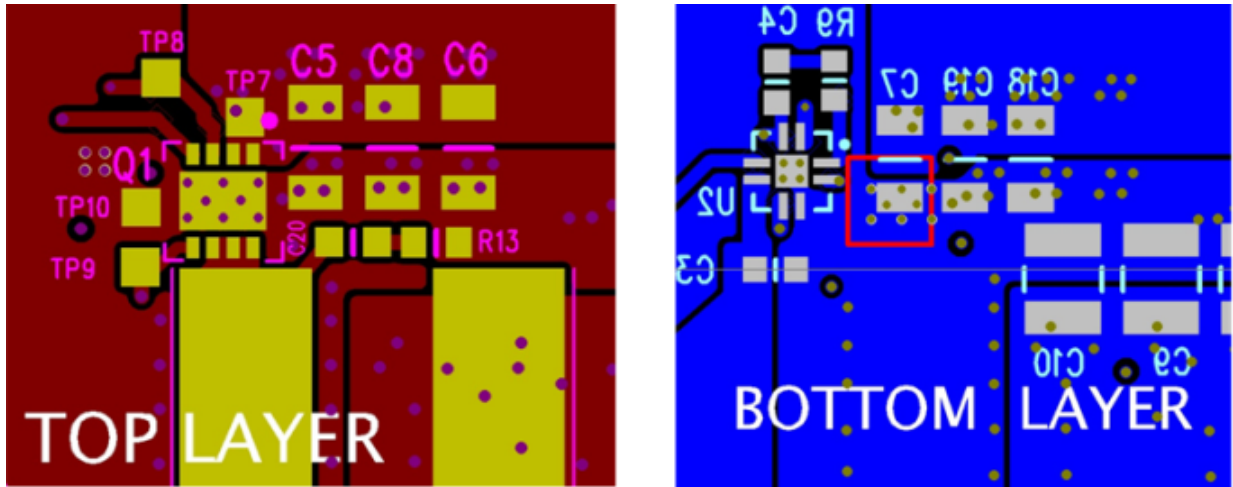

Figure 34. Recommended PCB Layout (Top Down View)
- The placement of the input capacitors relative to the power block's VIN and PGND pins should have the highest priority during the component placement routine. It is critical to minimize these node lengths. As such, ceramic input capacitors need to be placed as close as possible to the VIN and PGND pins (see Figure 34). The example in Figure 34 uses 6 \times 10- μ F ceramic capacitors (TDK part C3216X5R1C106KT or equivalent). Notice there are ceramic capacitors on both sides of the board with an appropriate amount of vias interconnecting both layers. In terms of priority of placement next to the power block, C5, C7, C19, and C8 should follow in order.
- The switching node of the output inductor should be placed relatively close to the power block VSW pins. Minimizing the node length between these two components will reduce the PCB conduction losses and actually reduce the switching noise level. In the event the switch node waveform exhibits ringing that reaches undesirable levels, the use of a boost resistor or RC snubber can be an effective way to easily reduce the peak ring level. The recommended boost resistor value will range between 1 Ω to 4.7 Ω depending on the output characteristics of driver IC used in conjunction with the power block. The RC snubber values can range from 0.5 Ω to 2.2 Ω for the R and 330 pF to 2200 pF for the C. Please refer to Snubber Circuits: Theory, Design and Application (SLUP100) for more details on how to properly tune the RC snubber values. The RC snubber should be placed as close as possible to the VSW node and PGND see Figure 34. ⁽¹⁾
- Use the smallest drill size allowed in your design. The example in Figure 34 uses vias with a 10-mil drill hole and a 16-mil capture pad.